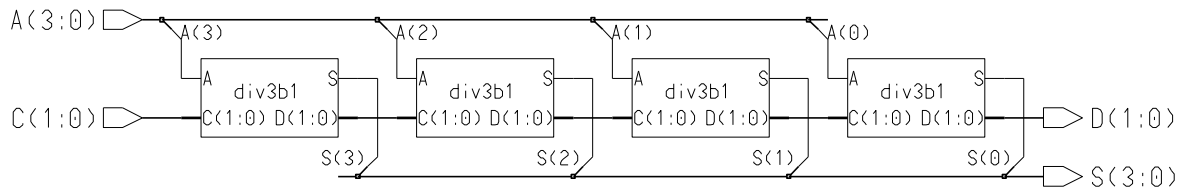

Figure 3: Schematic of the 4-bit division-by-3 component, **div3b4**
- Wire the components up to obtain a schematic similar to that in Figure 3.